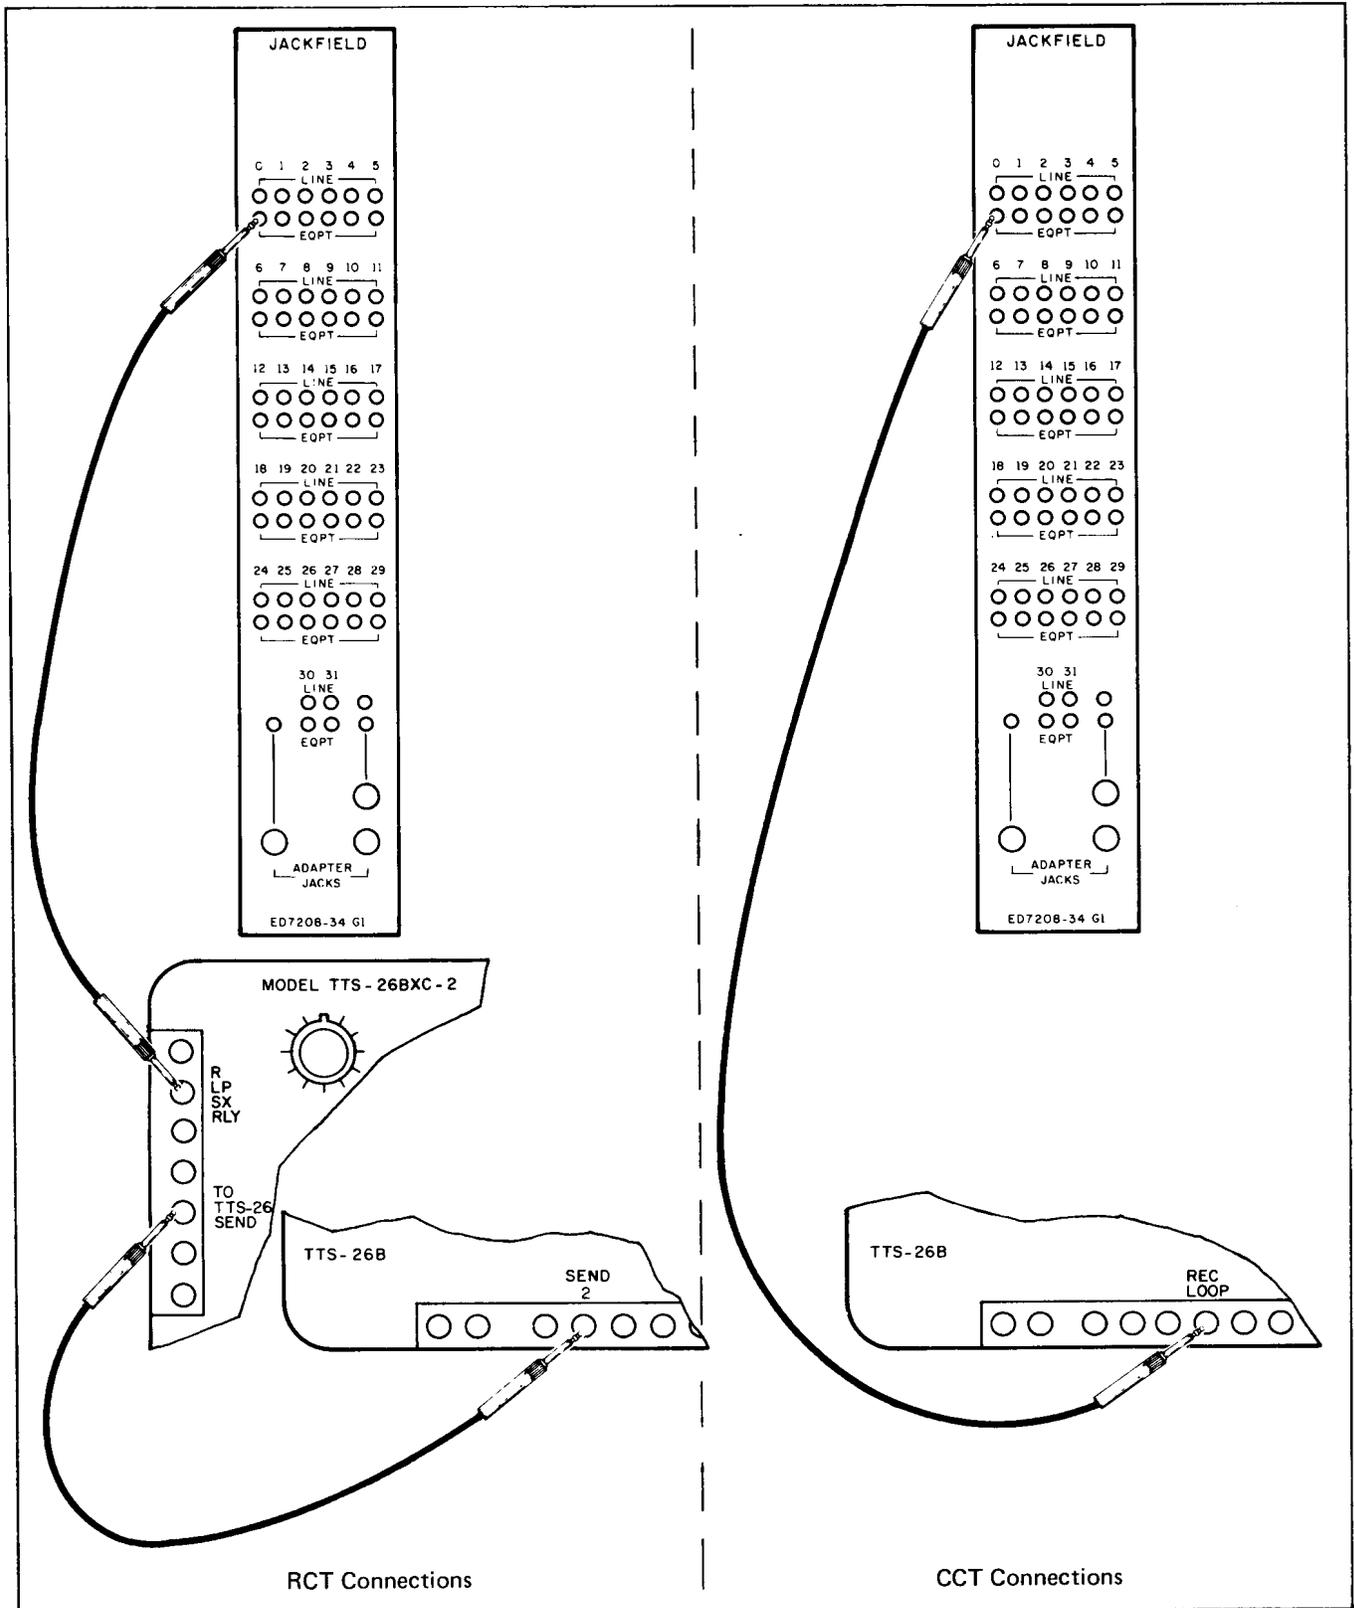

Fig. 6 - Signaling Test - Typical Test Connections
5.1 Connect output of signaling test set to the EQPT jack of the line to be tested (Fig. 6).	5.1 Connect input of signaling test set to the EQPT jack of the line to be tested (Fig. 6).